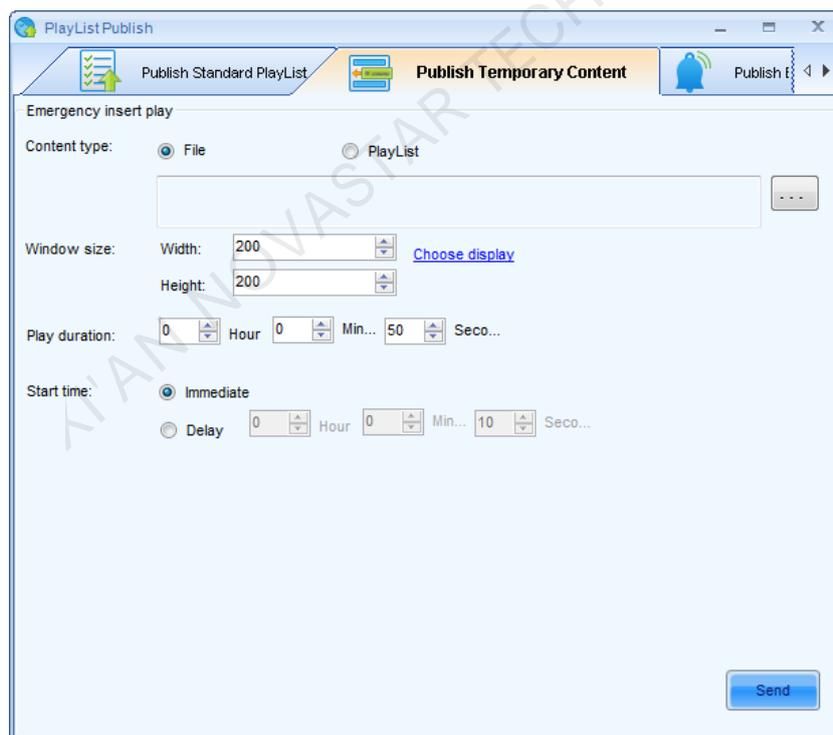

Fig. 9-69 Publish temporary content page
- 2) After inserting media files, click OK to return to the emergency insert play page as shown in Fig. 9-69. Click Choose Display to read the display size of client who need the insert play. Select insert start time and duration;
Select PlayList in Fig. 9-69 Emergency insert play page, and click  to insert PlayList. The following steps are same to those of insert files.